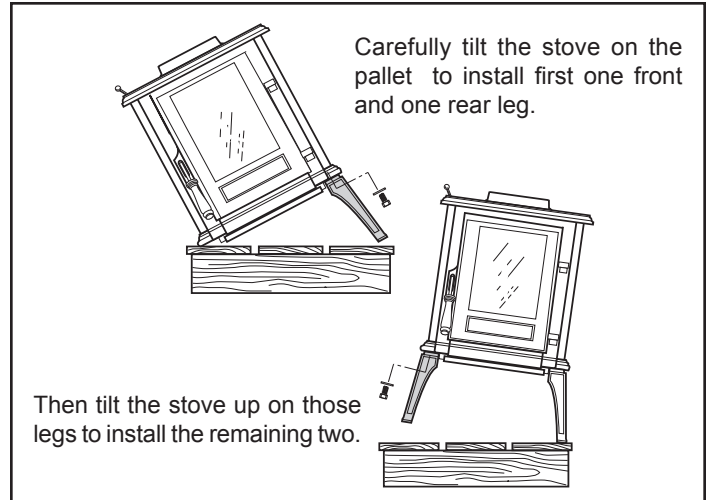

Figure 7.1 - Install legs on one side of stove then the other.
1. With your assistant holding the stove up on its side, remove (2) shipping brackets by removing the 3/8" Hex bolts and washers. **Note: DO NOT** discard these bolts and washers as they will be re-used to install the legs.
2. Place legs at each corner of the unit and install the 3/8" hex head bolts and washer previously removed. The shoulder of the legs should seat within the locator bosses cast into the stove bottom at each corner, Figure 7.1. Tighten the bolts with the wrench. **CAUTION: Overtightening can strip tapped threads.**